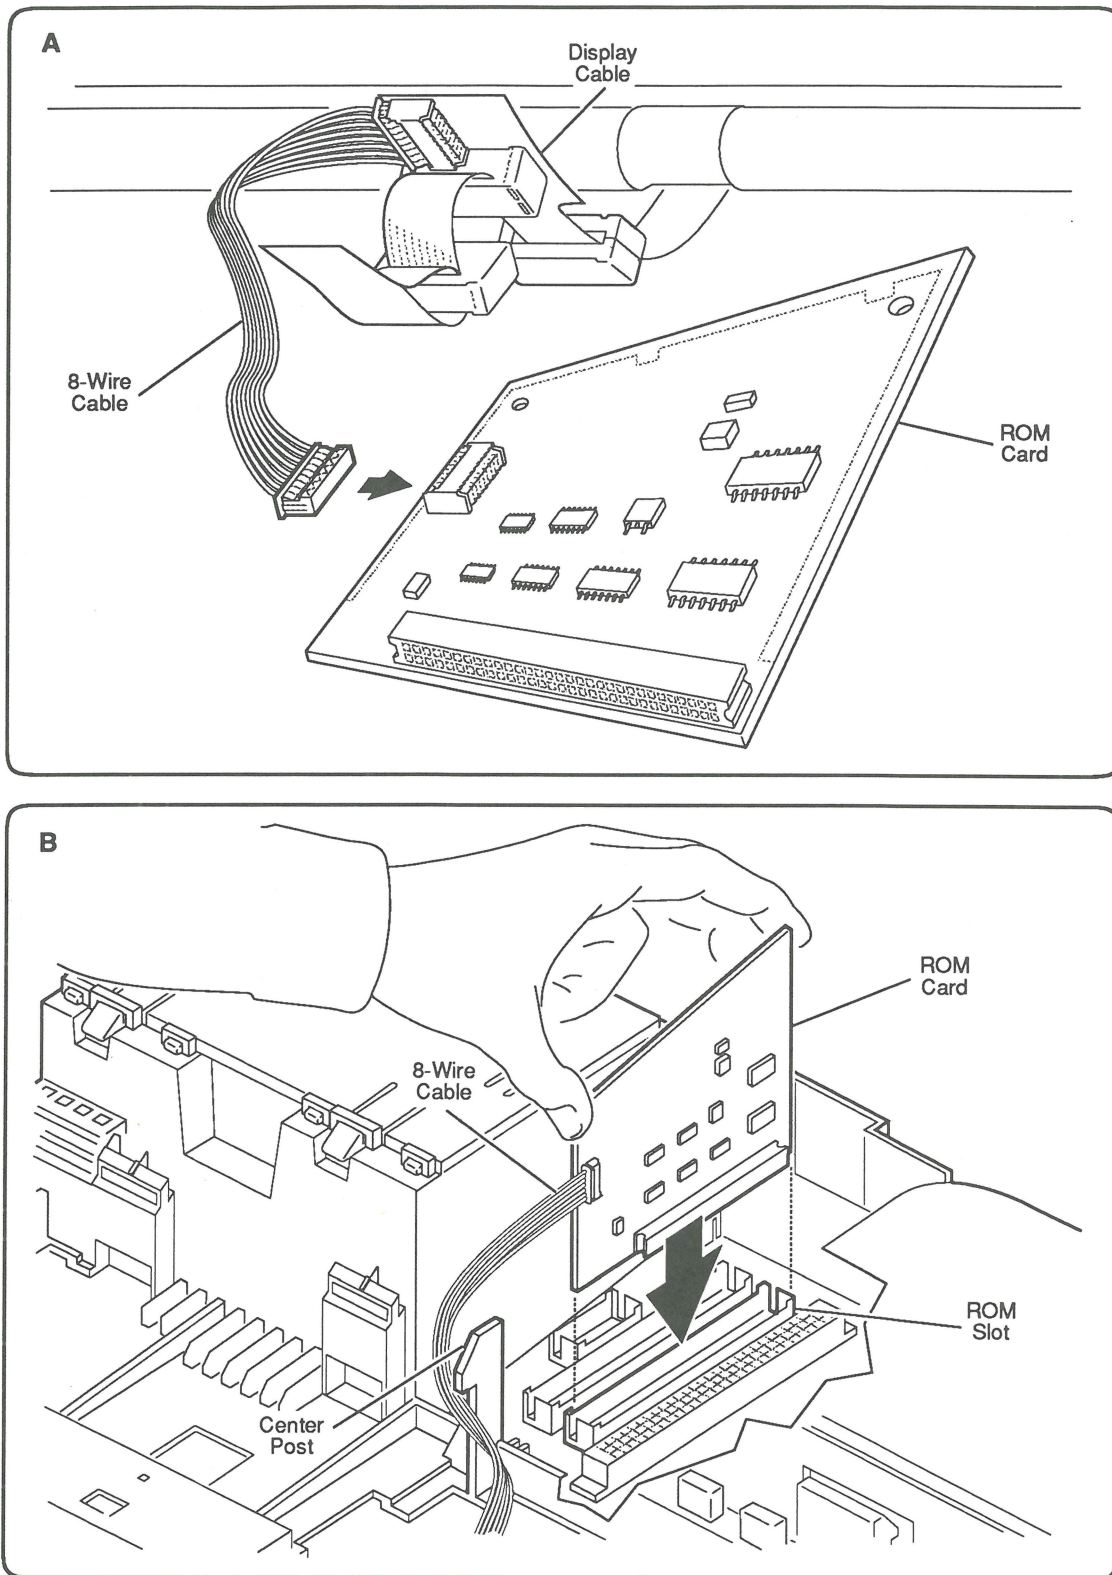

FIGURE 15
9. **Figure 15-A.** Connect the backlit display 8-wire cable connector to the ROM card.
10. **Figure 15-B.** Insert the ROM card into the ROM slot at the back of the logic board. The card fits only one way—with the connector facing forward.
11. **Figure 15-B.** Wrap the 8-wire cable around the front of the center post.